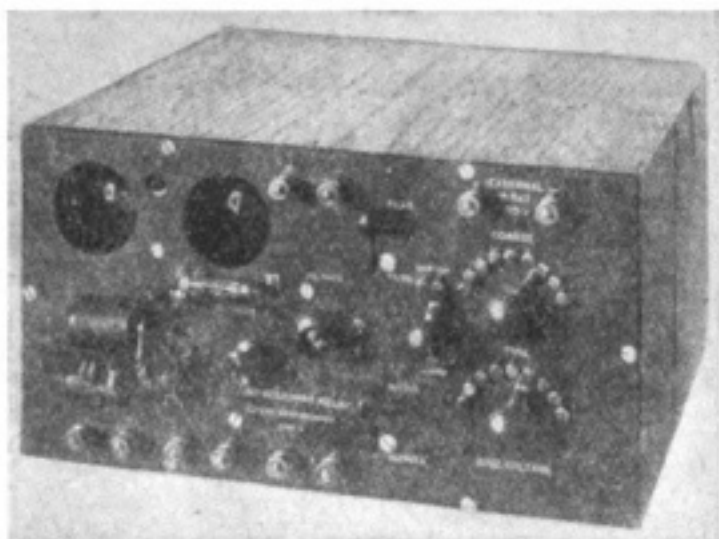

Fig. 4. Type A Relay Recorder for use with Batteries.
9. *Portability.* The complete recorder, with the exception of the filament lighting battery, is contained in a cabinet 7 ins. by 13 ins. by 11 ins., as shown in Fig. 4.
10. *Uses.*—(1) As an ordinary receiver it has advantages over reception with telephone receivers, for one may receive by buzzer or sounder with all induction and interfering noises eliminated (if not louder than the signal).